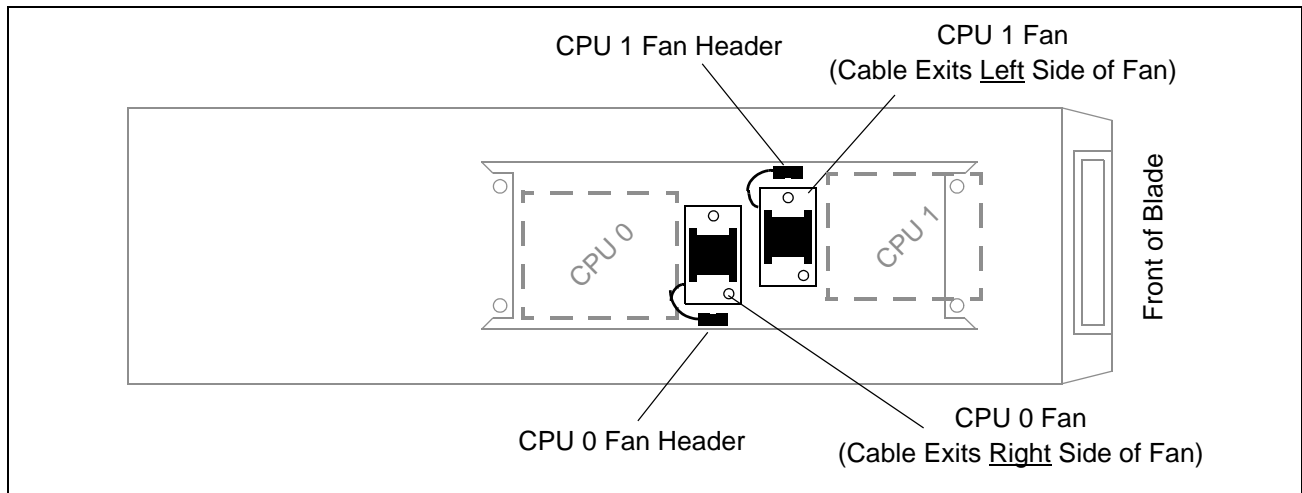

Figure 49 The Location of CPU Fan 0, CPU Fan 1, Power Headers, and the Positioning of Power Cables
10. Place the fan and bracket in the blade. Ensure that CPU fan 0 is in the left slot, and CPU fan 1 is in the right slot, as shown in Figure 49 on page 91. Replace both screws in the holes on the top of each bracket and tighten.